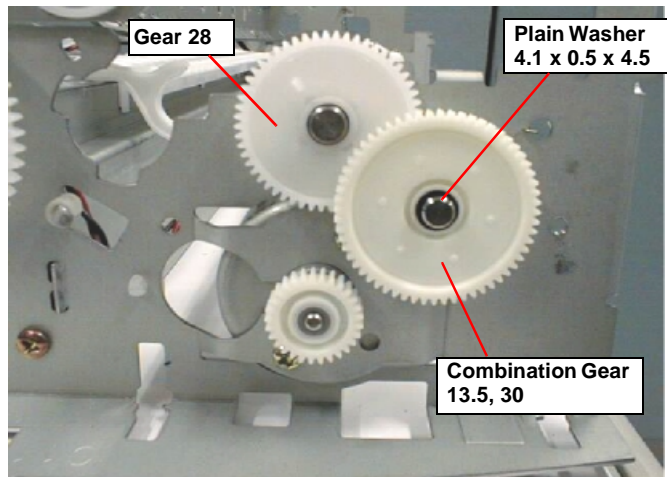

Figure 4-59. Removing the Flat Washer & Gear 13.5,30
- 5) Remove the Flat Washer (4.1x0.5x4.5) from the Combination Gear 13.5,30 and remove the Combination Gear 13.5,30 carefully. Refer to Figure 4-59.